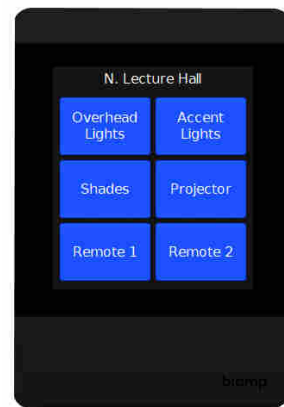

Figure 8. 6-Button Layout
4. The Tesira software allows for multiple pages each with unique icons, text, button color, etc. Figures 8 and 9 show examples of color and layout.